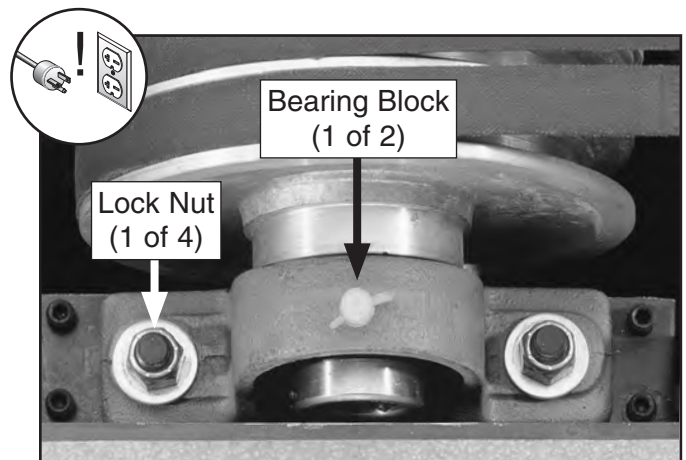

Figure 39. Location of bearing blocks.
4. Loosen lock nuts on bearing blocks (see **Figure 39**) and adjust sanding drum forward or backward as necessary until distances between outside of drum and inside of front brace on both ends of drum are within $\frac{1}{8}$ " of one another.